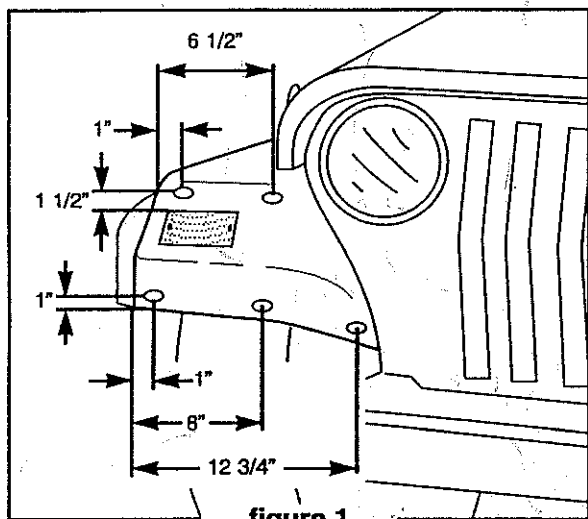

figure 1
2. Locate where the bumpers need to be installed per **figure 1**. Clean these locations with alcohol pad provided. Adhere a bumper in each location and press bumper firmly in place.